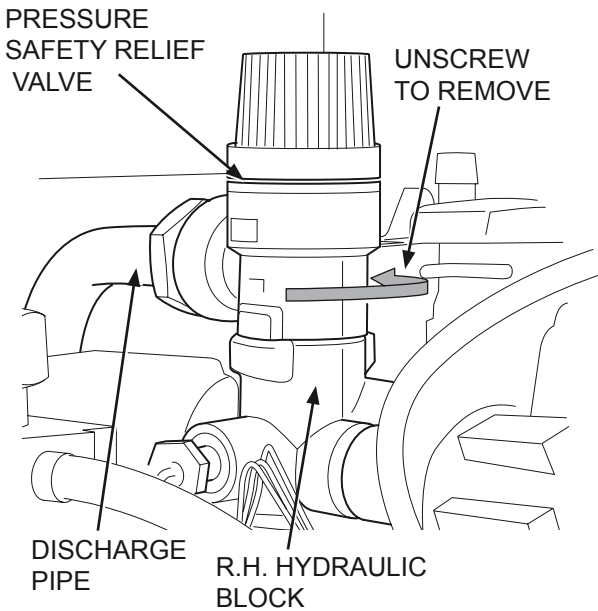

Figure 19.22
19.16 Pressure relief valve (Figure 19.22)